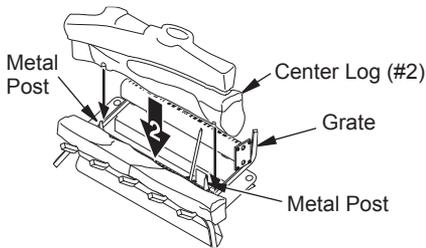

Figure 29 - Installing Center Log
2. Rest bottom of center log (#2) behind metal posts on front burner (see Figure 29, page 20). Make sure grooves in bottom of log fit over grate. Bring log forward against metal posts.